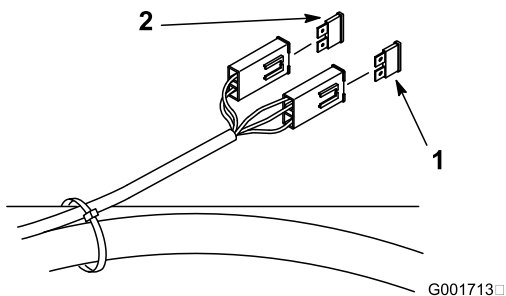

Figure 37
1. Unlatch the seat and raise the seat to gain access to fuse holder (Figure 37).
3. Install a new fuse (Figure 37).